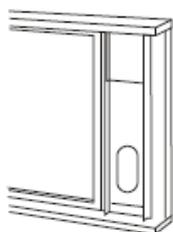

Fig.16
3. Cut the foam seal(adhesive type) to the proper length and attach it on the top of the window. Show as in Fig.16.